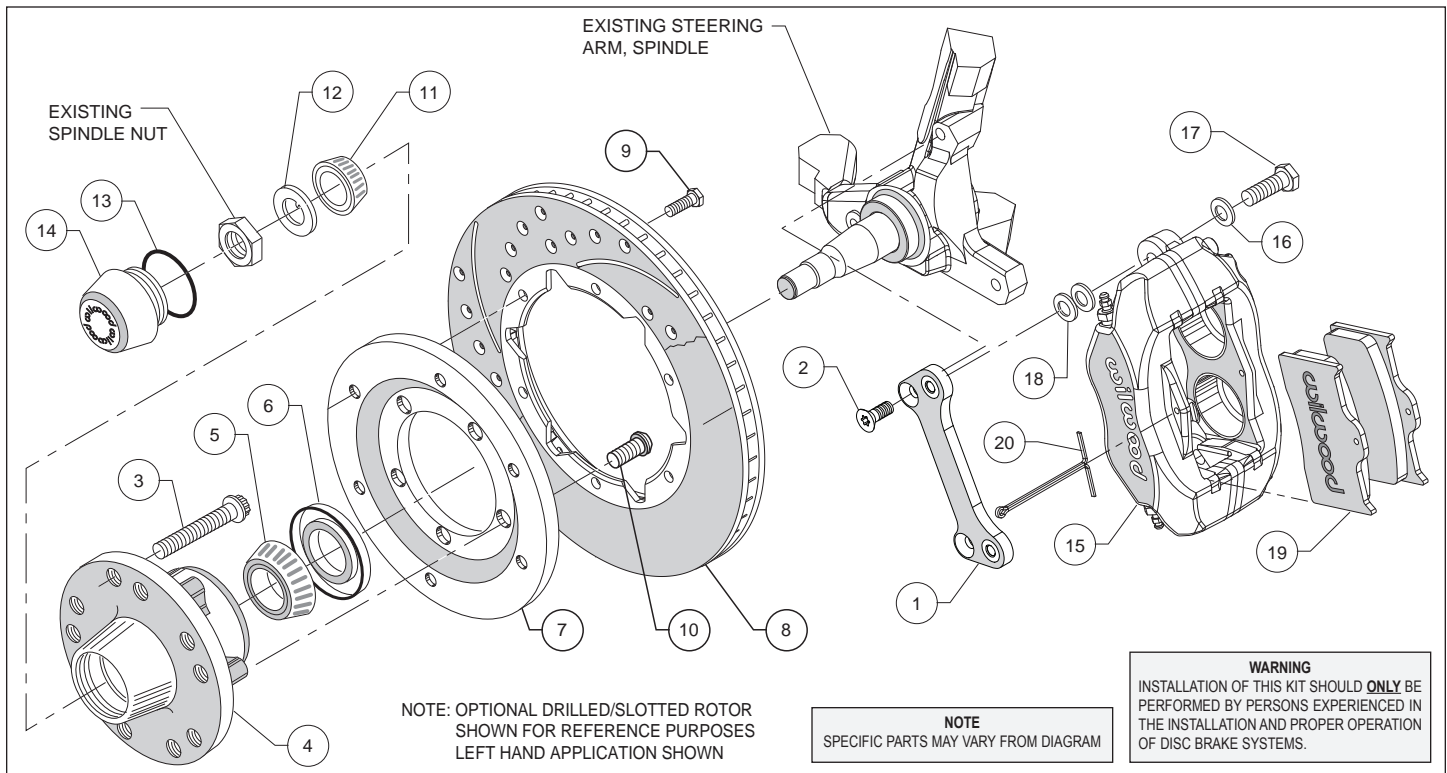
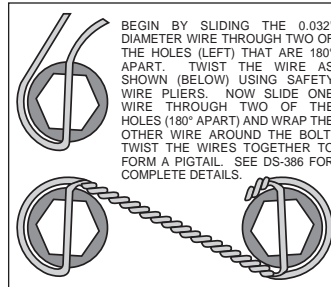
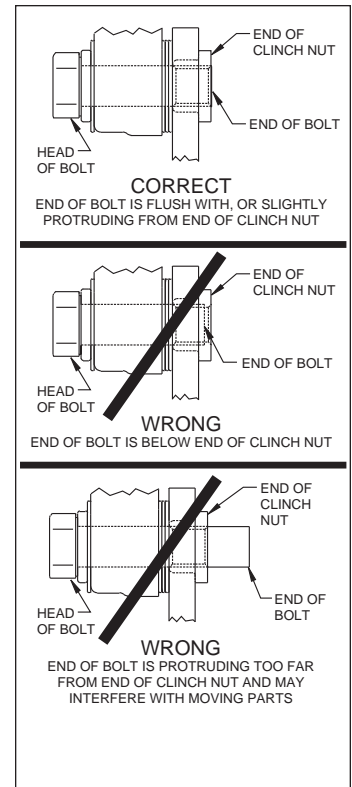

Figure 2. Typical Installation Configuration
Figure 4. Safety Wire Diagram
Figure 5. Clinch Nut Engagement Diagram
Assembly Instructions (numbers in parenthesis refer to the parts list on the preceding page, and Figure 2 above): **CAUTION:** All mounting bolts must fully engage insert nuts. Be sure to check that all bolts are either flush or protruding through flanged side of clinch nut after shimming, Figure 5.
- Align caliper mounting bracket (1) with the corresponding holes, to the face of the spindle and attach using bolts (2), as shown in Figure 2 and Photo 1. Temporarily tighten the mounting bolts. Ensure that the flanged heads of the clinch nuts in the bracket are facing outboard, Photo 1. **NOTE:** The bracket must fit squarely against the mounting points on the spindle. Inspect for interference from casting irregularities, machining ridges, burrs, etc. Remove bolts one at a time, apply red *Loctite*® 271 to threads, and torque to 40 ft-lb.
- Orient the rotor (8) and the rotor adapter (7) as shown in Figure 2 and Photo 4. Attach the rotor to the adapter using bolts (9). Using an alternating sequence, apply red *Loctite*® 271 to the threads, and torque to 180 in-lb. Safety wire bolts (9) using standard 0.032 inch diameter stainless steel safety wire as shown in Figure 4. Please refer to Wilwood's data sheet DS-386 (available at www.wilwood.com/Pdf/DataSheets/ds386.pdf) for complete safety wire installation instructions.
- Mount the adapter/rotor assembly (7/8) to the hub (4) using bolts (10), as shown in Figure 2 and Photo 5. Using an alternating sequence, apply red *Loctite*® 271 to the threads, and torque to 55 ft-lb.
- NOTE:** Please reference the caution statement at the beginning of the assembly instructions. Mount the caliper (15) onto the caliper mounting bracket (1) using bolts (17) and washers (16), as shown in Figure 2. Initially place two .035" thick shims (18) on each bolt between the caliper and the bracket, Photo 8. Temporarily tighten the mounting bolts and view the rotor (8) through the top opening of the caliper. The rotor should be centered in the caliper, Photo 9. If not, adjust by adding or subtracting shims between the bracket and the caliper. Always use the same amount of shims on each of the two mounting bolts. **NOTE:** The end of each bolt must be flush with or slightly protruding from the head of the clinch nut, as shown in Figure 5. If necessary place spare shims between washer (16) and caliper mounting ear to achieve the proper clinch nut engagement. Once the caliper alignment and clinch nut engagement are correct, remove the bolts one at a time, apply red *Loctite*® 271 to bolt threads, and torque to 40 ft-lb. Safety wire the bolts as shown in Figure 4.